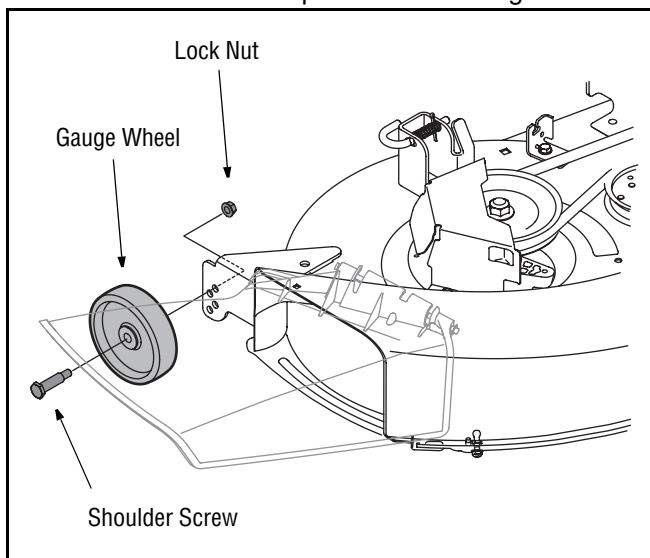

Figure 5
Place the tractor on a firm and level surface, preferably pavement, refer to Figure 5, and proceed as follows:
- d. Insert the shoulder screw with the rear gauge wheel into the index hole that leaves approximately 1/2" between the bottom of the wheel and the pavement. See Figure 5.